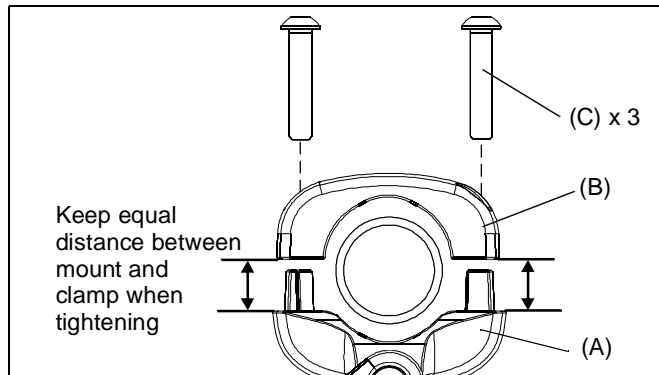

Figure 2
**NOTE:** Equally tighten screws (C) against clamp (B) and mount (A). (See Figure 2)